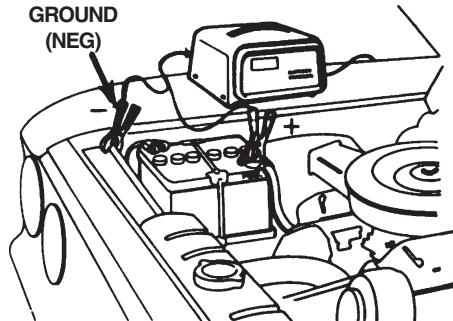

FIGURE 2: CONNECTION TO NEGATIVE GROUNDED BATTERY
5. For a negative-grounded vehicle, connect POSITIVE (RED) clamp from battery charger to POSITIVE (POS, P, +) ungrounded post of battery. Connect NEGATIVE (BLACK) clamp to vehicle chassis or engine block away from battery. Do not connect clamp to carburetor, fuel lines, or sheet-metal body parts. Connect to a heavy gage metal part of the frame or engine block. (Figure 2)